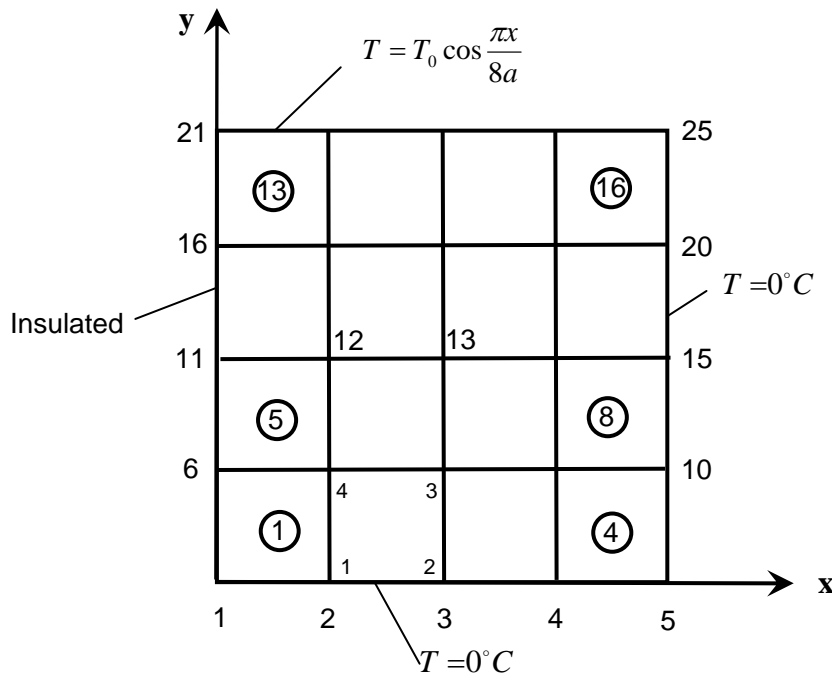
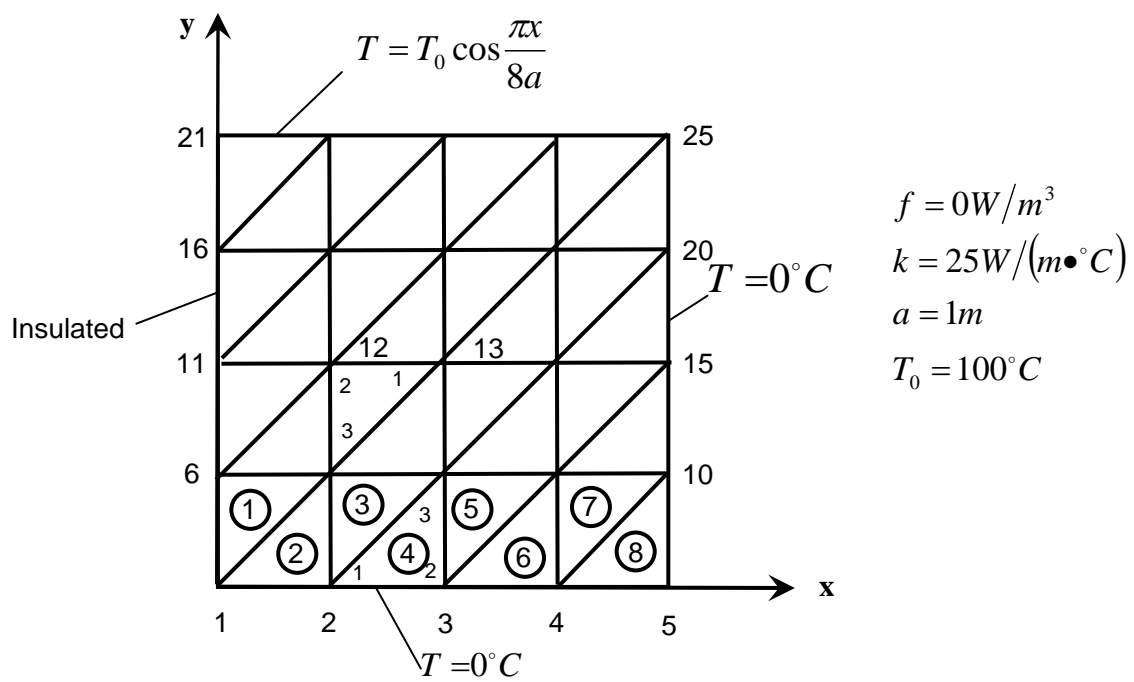
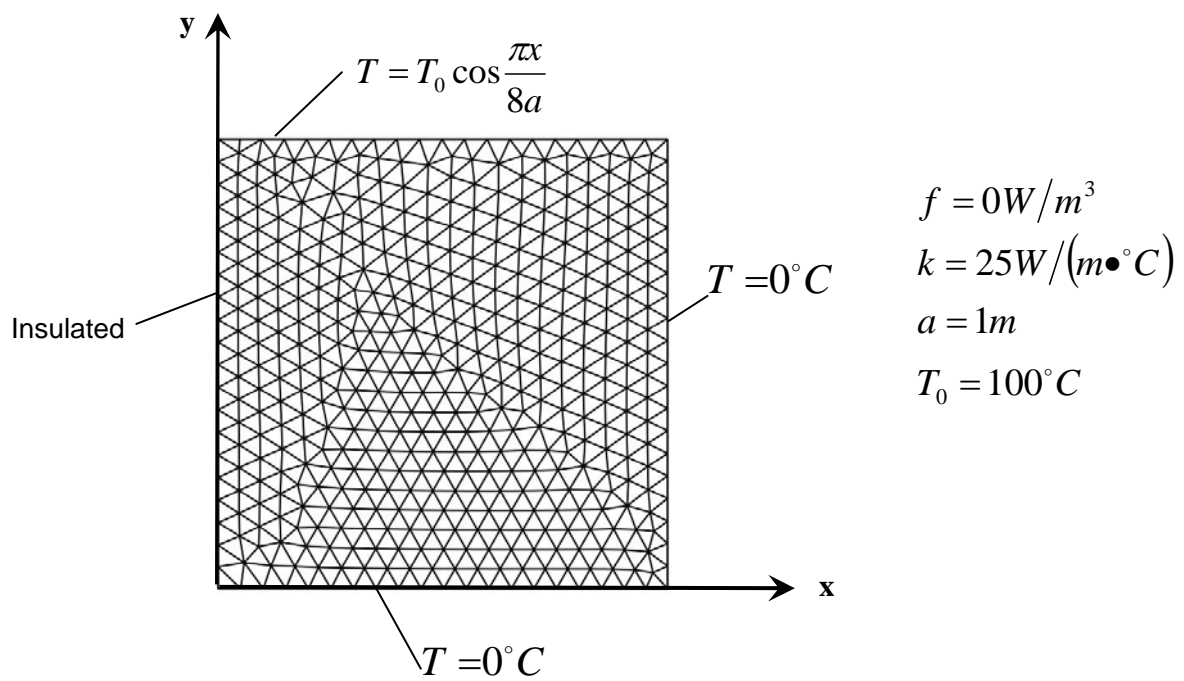

Fig. 1a
Fig. 1b
Fig. 1c
3. Write the finite element equations associated with nodes 13, 16, and 19 for the rectangular elements shown in Fig. 1a and triangular elements shown in Fig. 1b.
4. Write the specified primary and secondary variables at all boundary nodes shown in Fig. 1a and Fig. 1b.
5. Develop a general computer code using the finite element method with linear rectangular elements and right triangular elements and run the code for the meshes shown in Figs. 1a and 1b to determine the temperature distribution.
6. Compare the nodal temperatures $T(x,y)/T_0$ obtained using rectangular elements and triangular elements shown in Figs. 1a and 1b in a table with the analytical solution
7. Develop a computer code using the finite element method with arbitrary unstructured linear triangular elements, as it is shown in Fig. 1c, run the code with the mesh shown in Fig. 1b first to check the code and to see whether you obtain the same results as those in Step 5. Then run the code with the mesh shown in Fig. 1c (attached data file). Plot the results with temperature contour lines for the meshes shown in Figs. 1a, 1b and 1c.
Please prepare an input data file for the mesh shown in Fig. 1b using the same format as that in attached data file, so that you can run both data sets to determine the temperature distribution for the meshes shown in Fig. 1b and 1c.